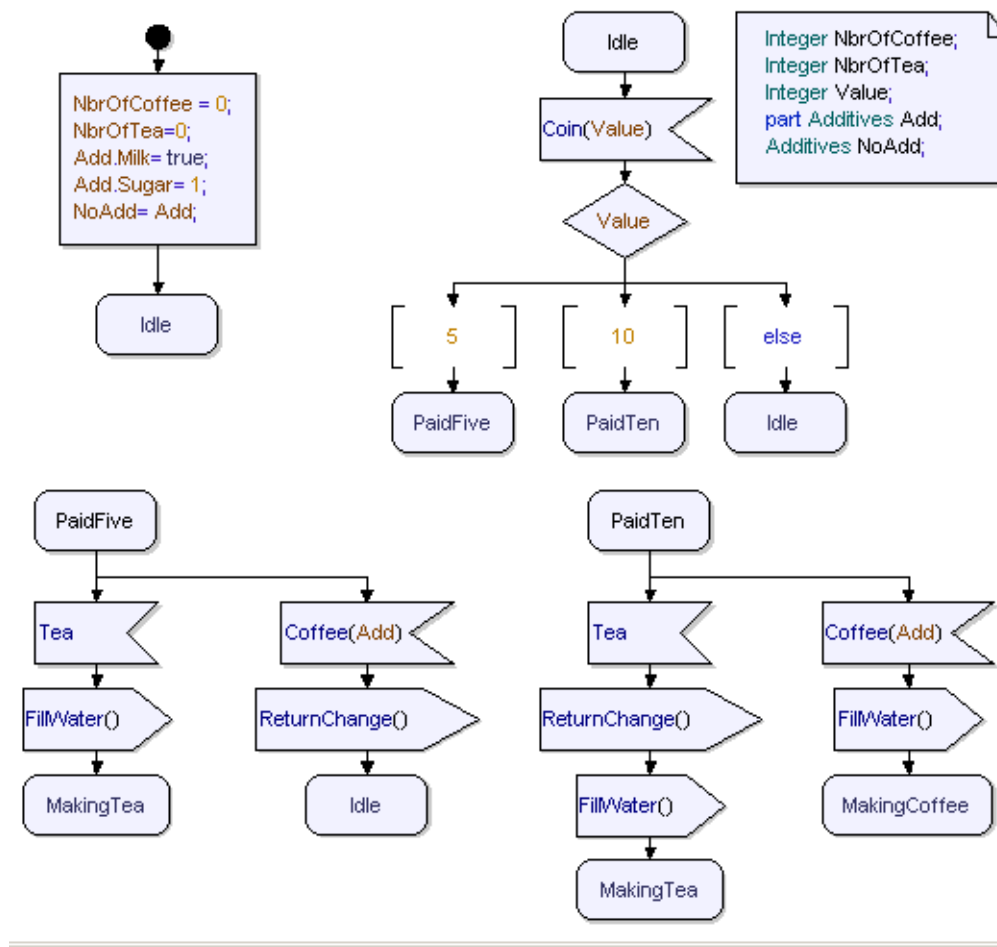

Figure 24: State machine for Controller with Additives
- Open the state diagram **NewOrder** for class Controller. Declare a variable called **Add** of type Additives. Declare the variable as a part. See Figure 24 on page 48.
- Use the variable Add to receive request for milk and sugar whenever the signal coffee is received, a possible solution is shown in Figure 24 on page 48.